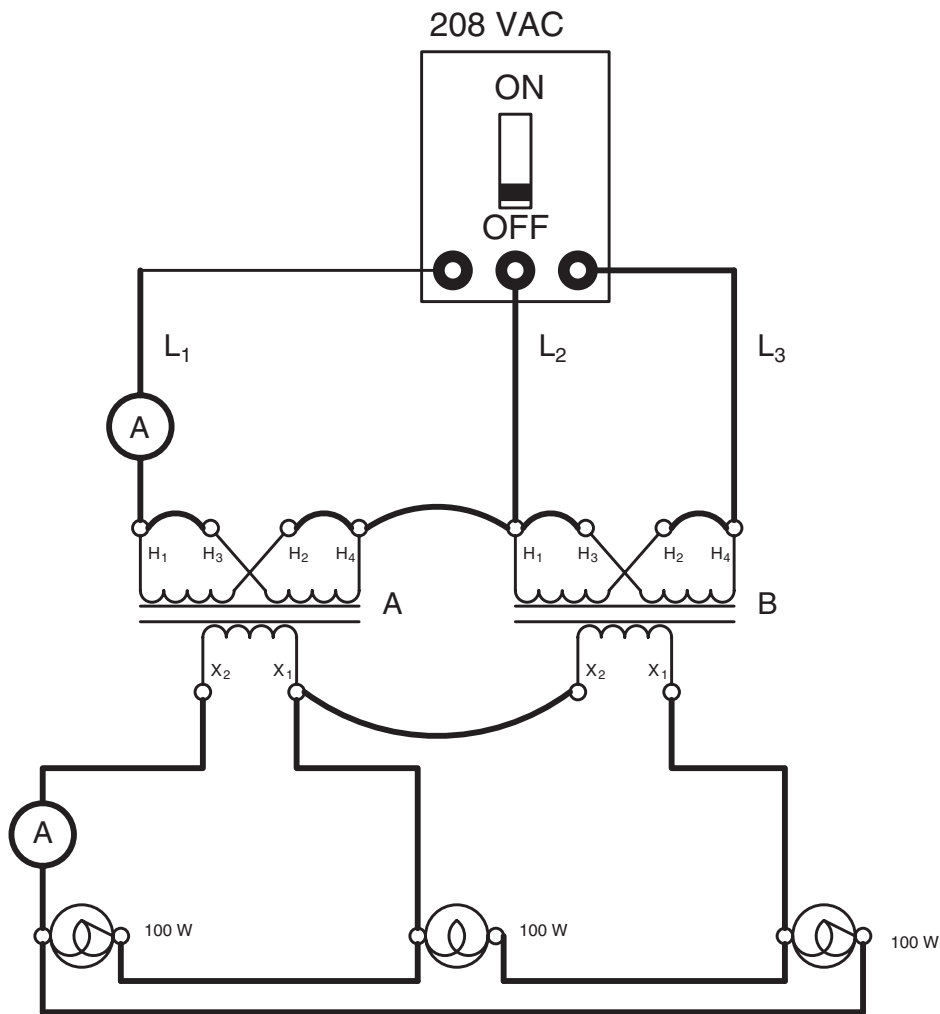

Figure 24-29 Connecting a three-phase load to the transformer bank.
66. Connect three 100 watt lamps to form a delta connection. Connect these lamps to the line terminals of the secondary, as shown in Figure 24-29.